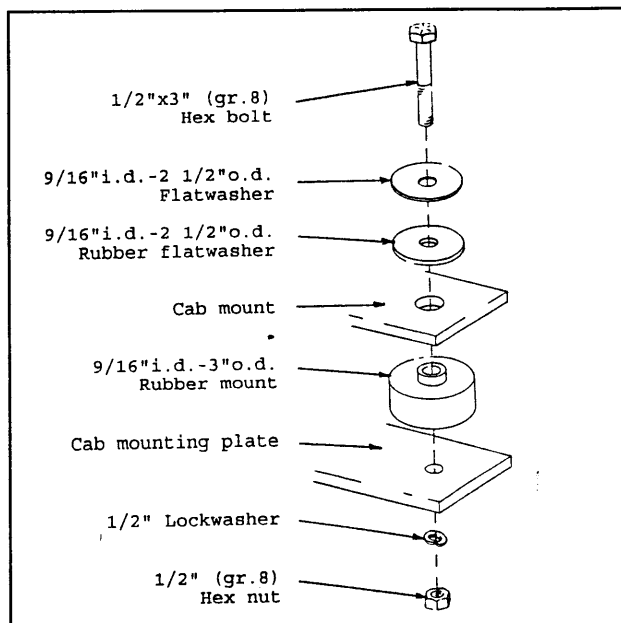

Figure 3
7. **NOW YOU ARE READY TO MOUNT THE ROPS.** Place one rubber mount on each ROPS mounting plate of the front and rear brackets. Lift the ROPS, using the lift bolts located near the roof, directly above the tractor. Slowly lower the ROPS until the ROPS mounts rest solidly on the rubber mounts. Then, bolt the ROPS snugly to the brackets as shown in figure 3.